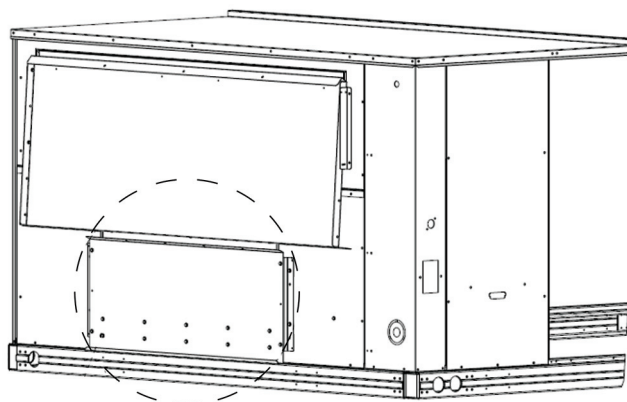

Fig. 26 — Shipping Location, Vertical Units
1. Remove the hood top panel from its shipping position on the unit end (see Fig. 26).